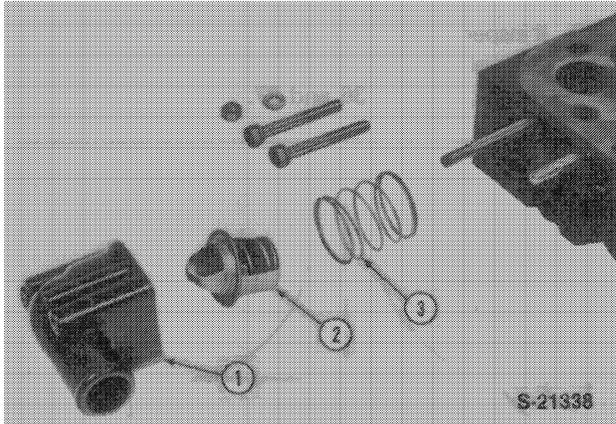

Figure 31
- Remove the thermostat housing (1) and remove the thermostat, spring and gasket, Figure 31.